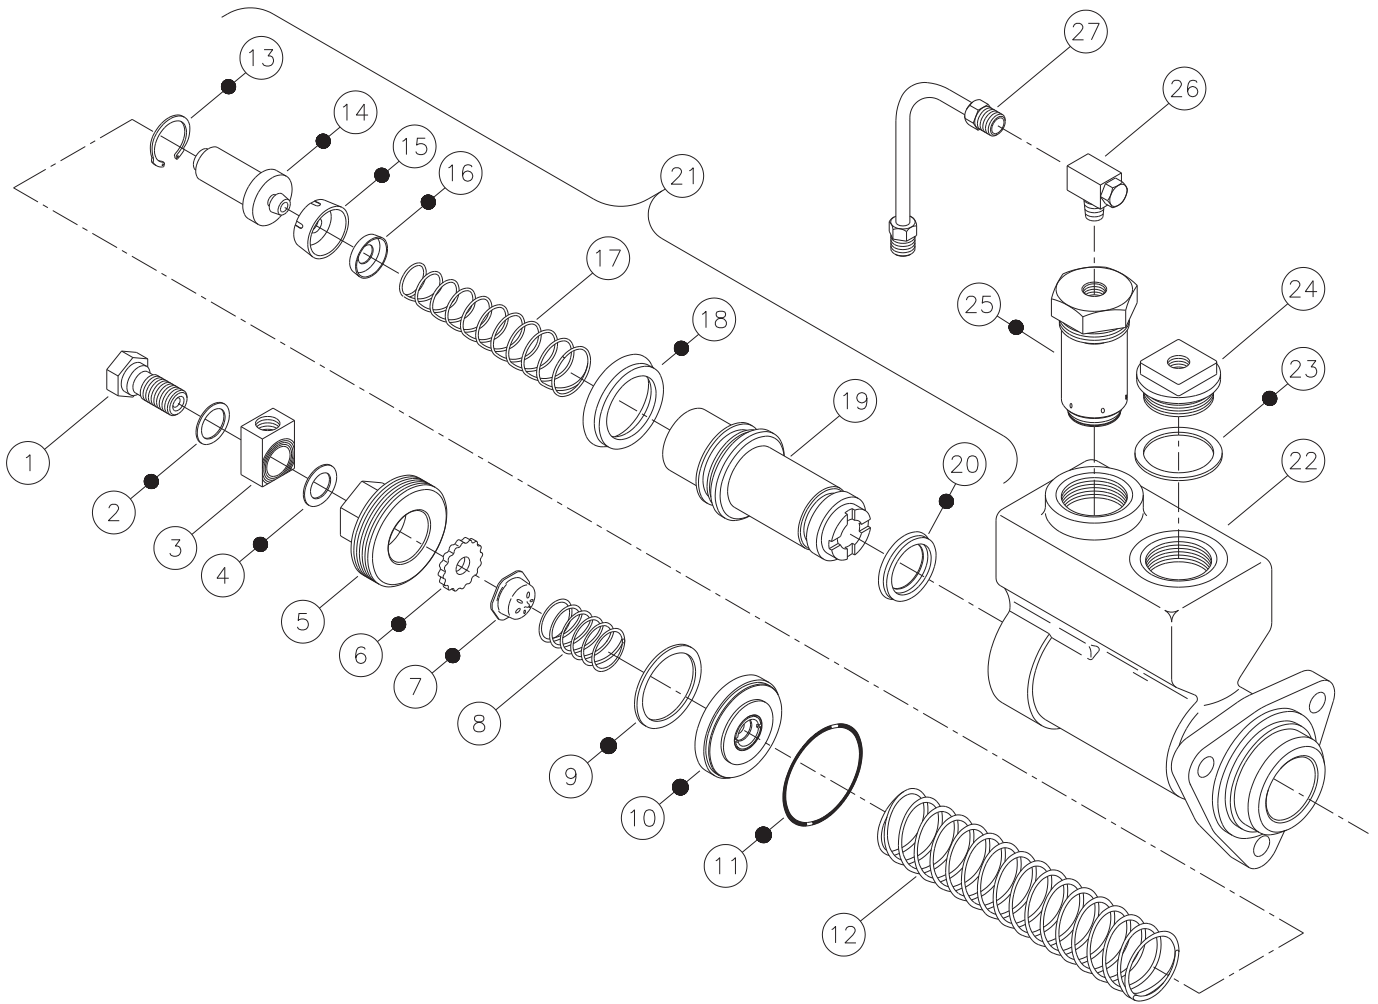

FIGURE 4
2. Install new retainer (16) on end of spring (17). Install spring, large end first, into piston (19).
NOTE: Retainer (16) removed from your master cylinder may appear different than retainer (16) in Figure 4, replace with new retainer provided in conversion kit.
3. Install new cup (15) on new piston (14).
4. Install new piston (14) into piston (19) with cup (15) against retainer (16). Depress piston (14) and install new retaining ring (13).
5. Install new cup (18) and new cup (20) on piston (19). Note direction of cups (18 & 20).
6. Install piston assembly (21) into housing (22). Note direction of piston assembly (21).
7. Install spring (12) over piston assembly (21).
8. Install new o-ring (11) in housing (22) and new seal (9) on new retainer assembly (10). Install new retainer assembly into housing (22). Note direction of retainer assembly (10).
9. Assemble new seat (6), new check valve (7), and spring (8) between retainer assembly (10) and end plug (5).
10. Install end plug (5) into housing (22). Torque end plug (5) using a large box end wrench 67.8-108.5 N·m (50-80 lb·ft).
11. Insert new relief valve assembly (25) into housing (22) and torque 101.7-108.5 N·m (75-80 lb·ft).
12. Install fitting (26) into new relief valve assembly (25) and tighten.